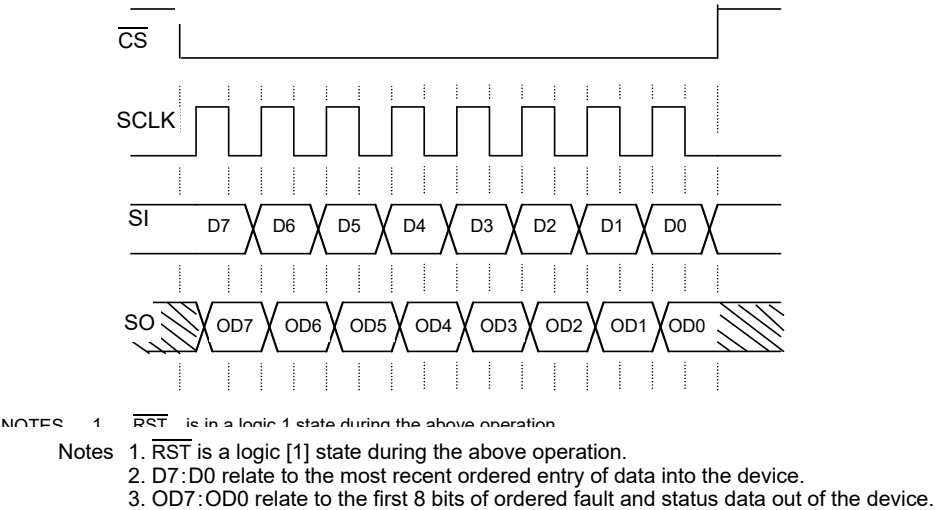
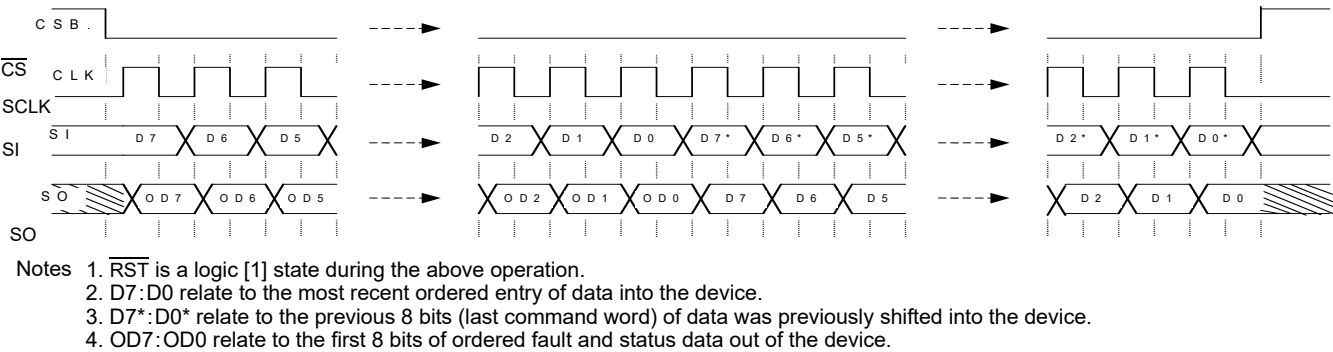

Figure 9. Single 8-Bit Word SPI Communication
Figure 10. Multiple 8-bit word SPI communication
Serial clocks (SCLK) the internal shift registers of the 33984 device. The serial input (SI) pin accepts data into the input shift register on the falling edge of the SCLK signal while the serial output (SO) pin shifts data information out of the SO line driver on the rising edge of the SCLK signal. It is important the SCLK pin be in a logic low state whenever \overline{CS} makes any transition. For this reason, it is recommended the SCLK pin be in a logic [0] state whenever the device is not accessed (\overline{CS} logic [1] state). SCLK has an active internal pull-down, I_{DWN} . When \overline{CS} is logic [1], signals at the SCLK and SI pins are ignored and SO is tri-stated (high-impedance). See Figure 9 and Figure 10.